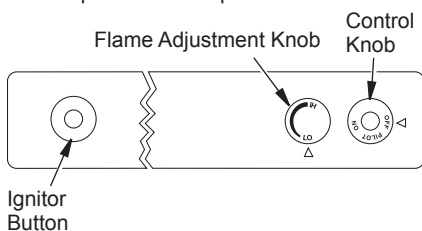

Figure 31 - Control Knob and Ignitor Button Location (Shown as Supplied, No Control Options)
- Press in and turn control knob clockwise to the OFF position (see Figure 31).
- Wait five (5) minutes to clear out any gas. Then smell for gas, including near the floor. If you smell gas, STOP! Follow "B" in the safety information, page 18. If you don't smell gas, go to the next step.
- Press in and turn control knob counterclockwise to the PILOT position. Press in control knob for five (5) seconds (see Figure 31).